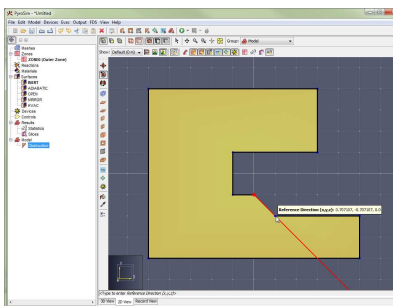

Figure 95. Define reference vector
4. Single-click another point to define a **reference vector** from the first point to the second point ( Figure 95 ). This **reference vector** is what the angle is based from.